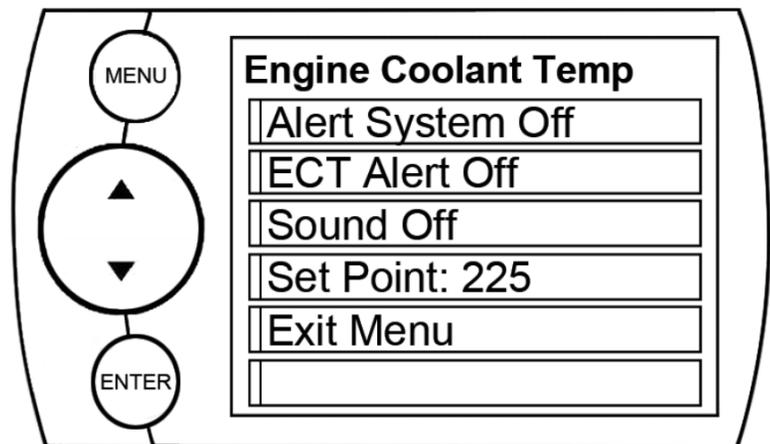

Figure 18
The Alert Options (Settings) screen (Figure 18) allows you to turn the alerts on/off both collectively and individually, and also lets you set the alert values for each of the available parameters.
1. Select a PID in the Alert Options menu and Figure 18 will appear:
NOTE: In Figure 18 the Engine Coolant Temperature PID is being modified.